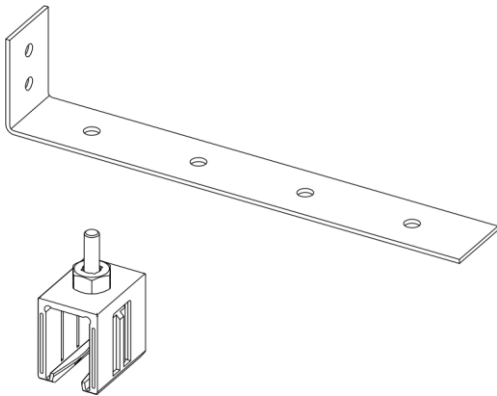
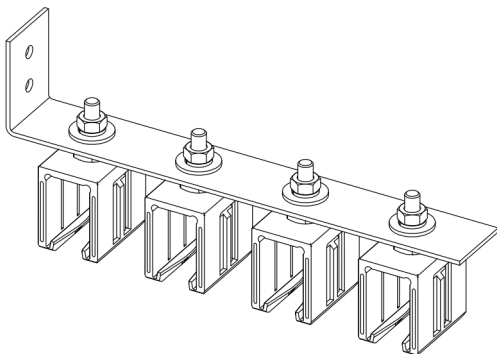

Fig. 57: Insert the hanger clamp into the first hole in the retaining plate
Fig. 59: All hanger clamps are mounted
- Insert the hanger clamp into the hole in the retaining plate and tighten the screw connections from above with the specified torque (SW 17, torque wrench: **14 Nm**) (see Fig. 57 through Fig. 59). The retaining clamp of the hanger clamp must be rotatable. A subsequent alignment is not necessary.